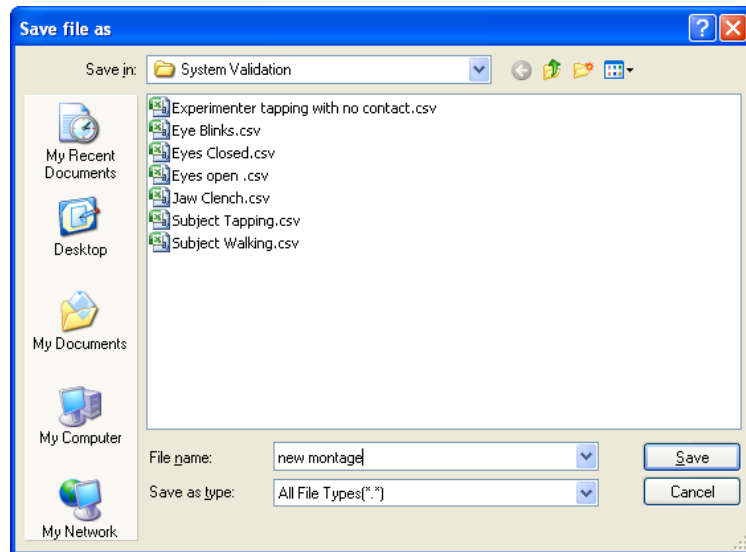

Figure 32 – Save File As dialog window for montage.
- This will open a “Save file as” dialog window (Figure 32).